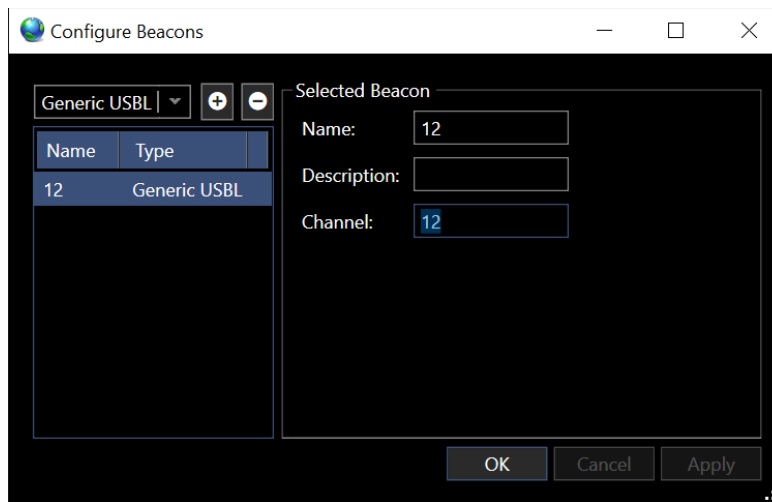

FIGURE 17-5 GENERIC USBL DIALOG
1. Select Generic USBL from the drop-down list (see Figure 17-5)